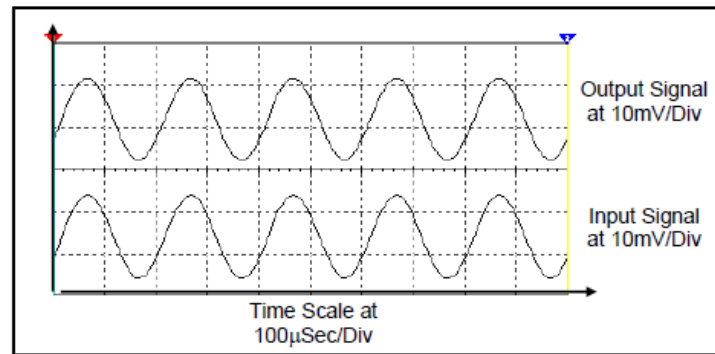

Fig.17 The output and input waveforms of a CC amplifier
- Adjust the VOLT/DIV for Ch.A and Ch.B, hence adjust the TIME/DIV of the oscilloscope; Fig.17.